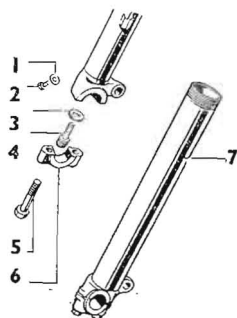

Fig. 37. The bottom end of each front fork leg (1956-67)
Draining and Replenishing Fork Legs (1956-57). Drain both legs. Referring to Fig. 37, remove the sloping drain plug (2) and washer (1) from the outside of the fork leg bottom cover-tube (7), just above the wheel spindle, and allow all oil to drain off into a suitable receptacle. To facilitate quick draining of the last drops of oil, operate the forks up and down quickly and firmly by means of the handlebars. When all oil has been drained off from both fork legs, replace and firmly tighten the drain plugs, not omitting the fibre washers.
Removing the Front Wheel (1956-67 Models). Withdraw the split pin and pivot pin, or clevis from the lower end of the brake cable. On the earlier models TR6, T100 and T110 unscrew the nut and remove the bolt which secures the anchor plate to the fork leg. Remove the two bolts which secure each wheel-spindle cap (6, Fig. 37) to the corresponding bottom tube cover on the fork leg. Slacken the retaining nut at the rear, of the mudguard and swing the front stand forward. Then withdraw the front wheel from the telescopic forks. If necessary, facilitate its removal by exerting pressure on the rear of the motor-cycle.
Fitting the Front Wheel (1956-67 Models). Position the front wheel in the telescopic forks and swing the front stand backwards. If handy, add a small weight in front of the parcel grid on the petrol tank to ensure that the fork legs rest on the wheel spindle. Hold the wheel-spindle caps ((6), Fig. 37) in position and screw the cap-securing bolts a few turns into the front fork bottom tube covers ((7), Fig. 37). Note that the wheel spindle is recessed at the bolt positions and it may prove necessary to move the front wheel slightly from side to side before it is possible to insert the four cap-securing bolts. At this stage do not fully tighten the four bolts.
Tighten the four spindle cap-securing bolts ((5), Fig. 37) evenly; keep the space between each cap and fork leg equal in front of and behind the wheel spindle. Refit the front brake cable to the abutment and insert the pivot pin and split pin. Check that the handlebar adjustment for the front brake is correct (*see* page 76). With the front stand in its normal position tighten the securing nut.